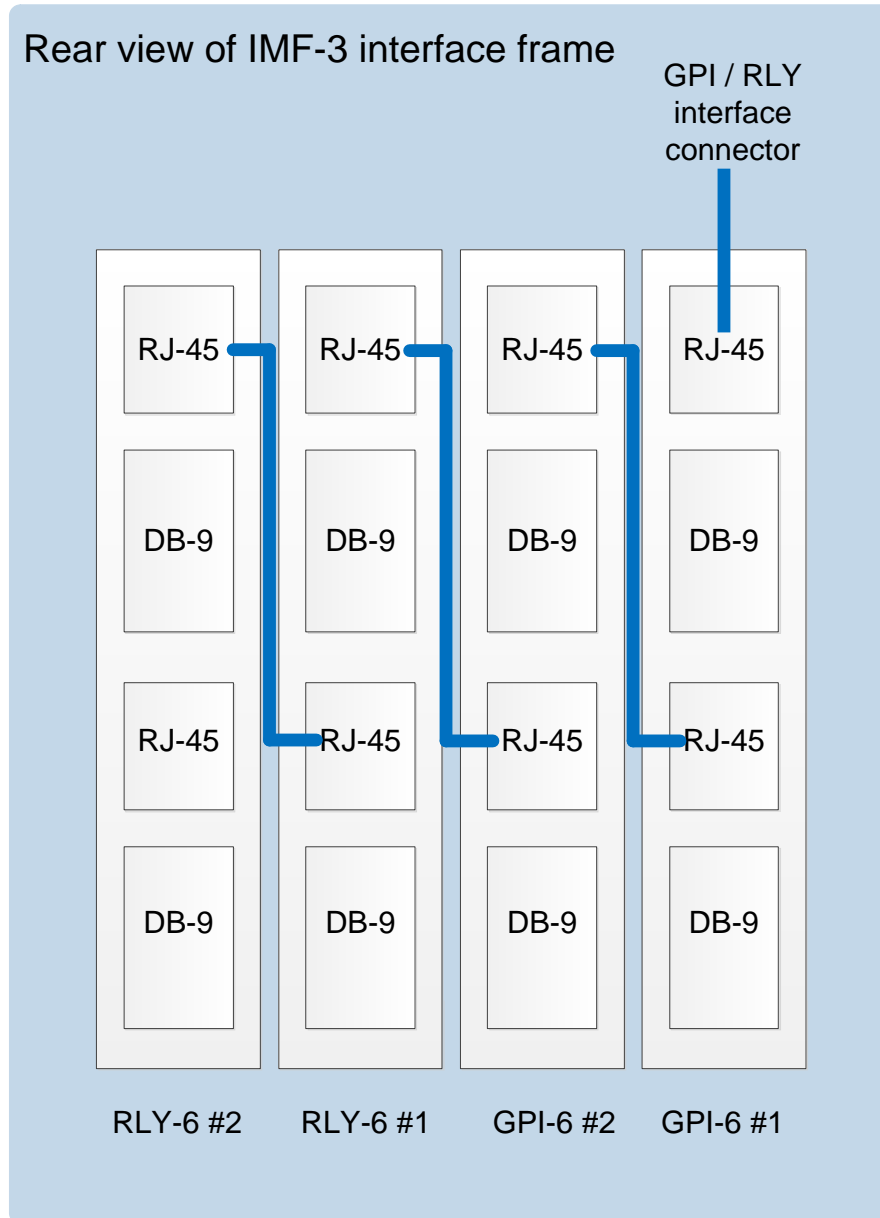

Figure 11: RLY-6/GPI-6Daisy Chain Connection
*If both GPI-6 and RLY-6 interface modules are used, you must place the GPI-6 interface modules first in the daisy chain (see **Figure 11: RLY-6/GPI-6 Daisy Chain Connection**). The maximum combined length of all the RJ-45 cables should not exceed 20 ft. (6 m).*